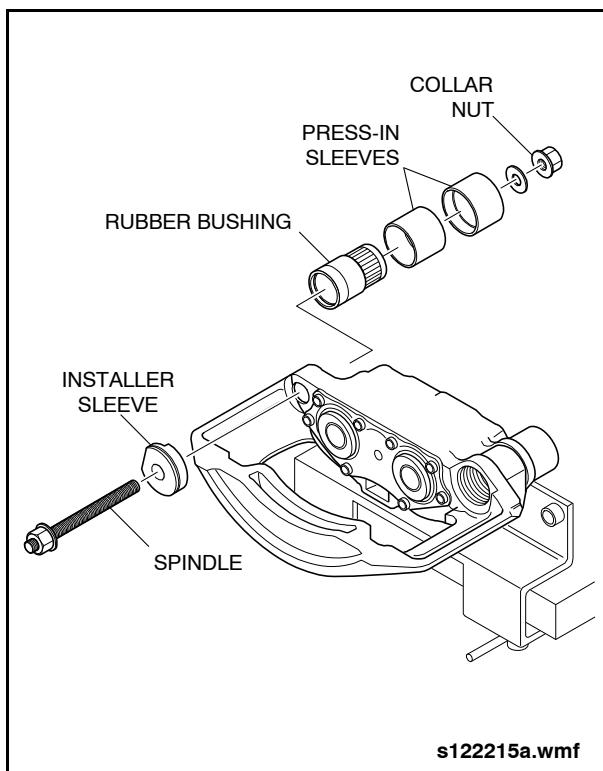

Fig. 2-129: Rubber Bushing Installation
- b. Position installation tool with rubber bushing on the brake caliper and mount with spindle and collar nut tools (Items 70, 71, 72, 75, & 77 from special tools list). See "Fig. 2-129: Rubber Bushing Installation" on page 114.